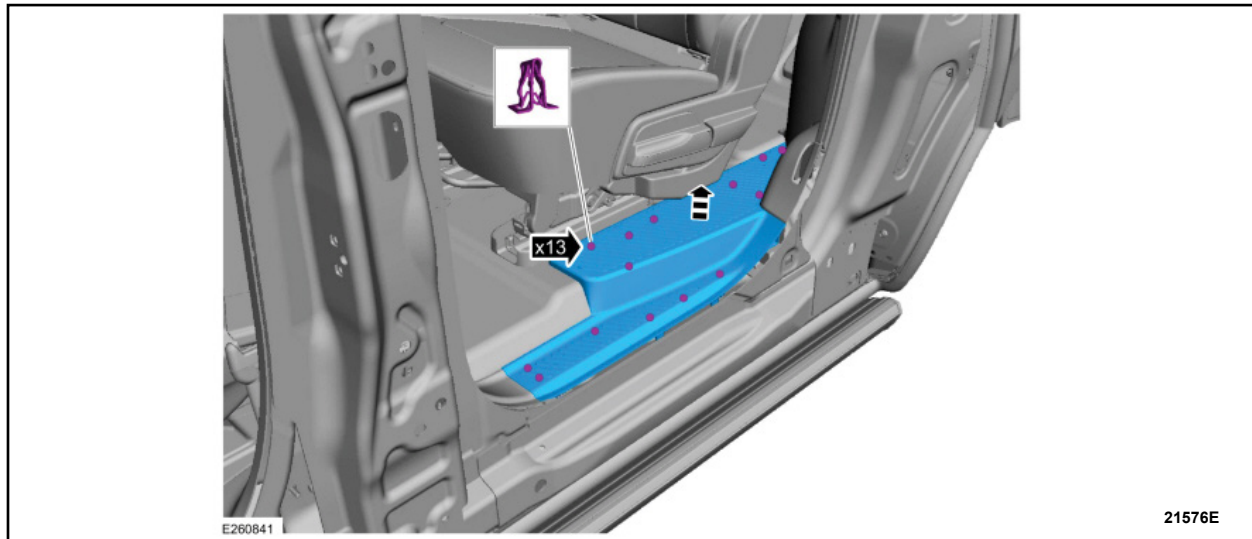

FIGURE 5
5. Release the clips and remove the rear door scuff plate trim panel. See Figure 5.